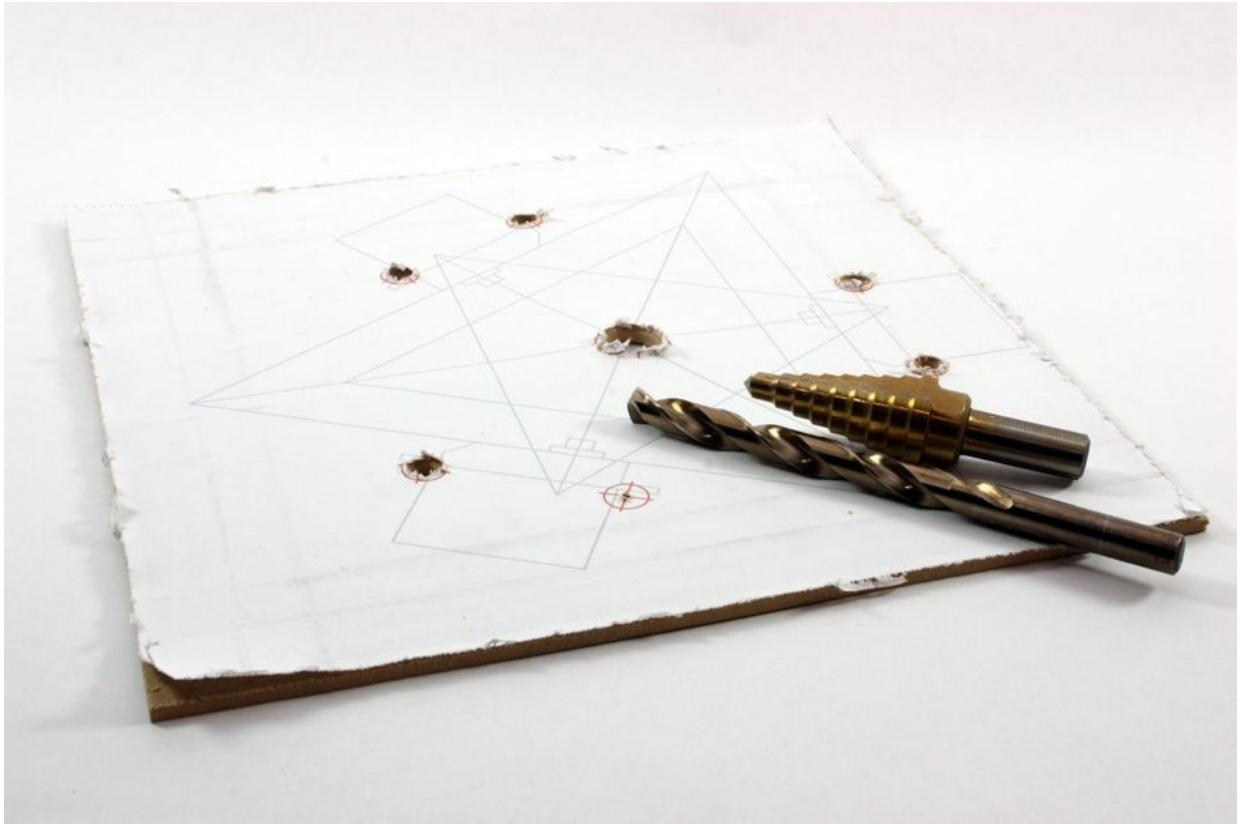

Figure 13-13. Drilling the top platform
10. As with the end effector, drill out the holes indicated on the top platform template (Figure 13-13).